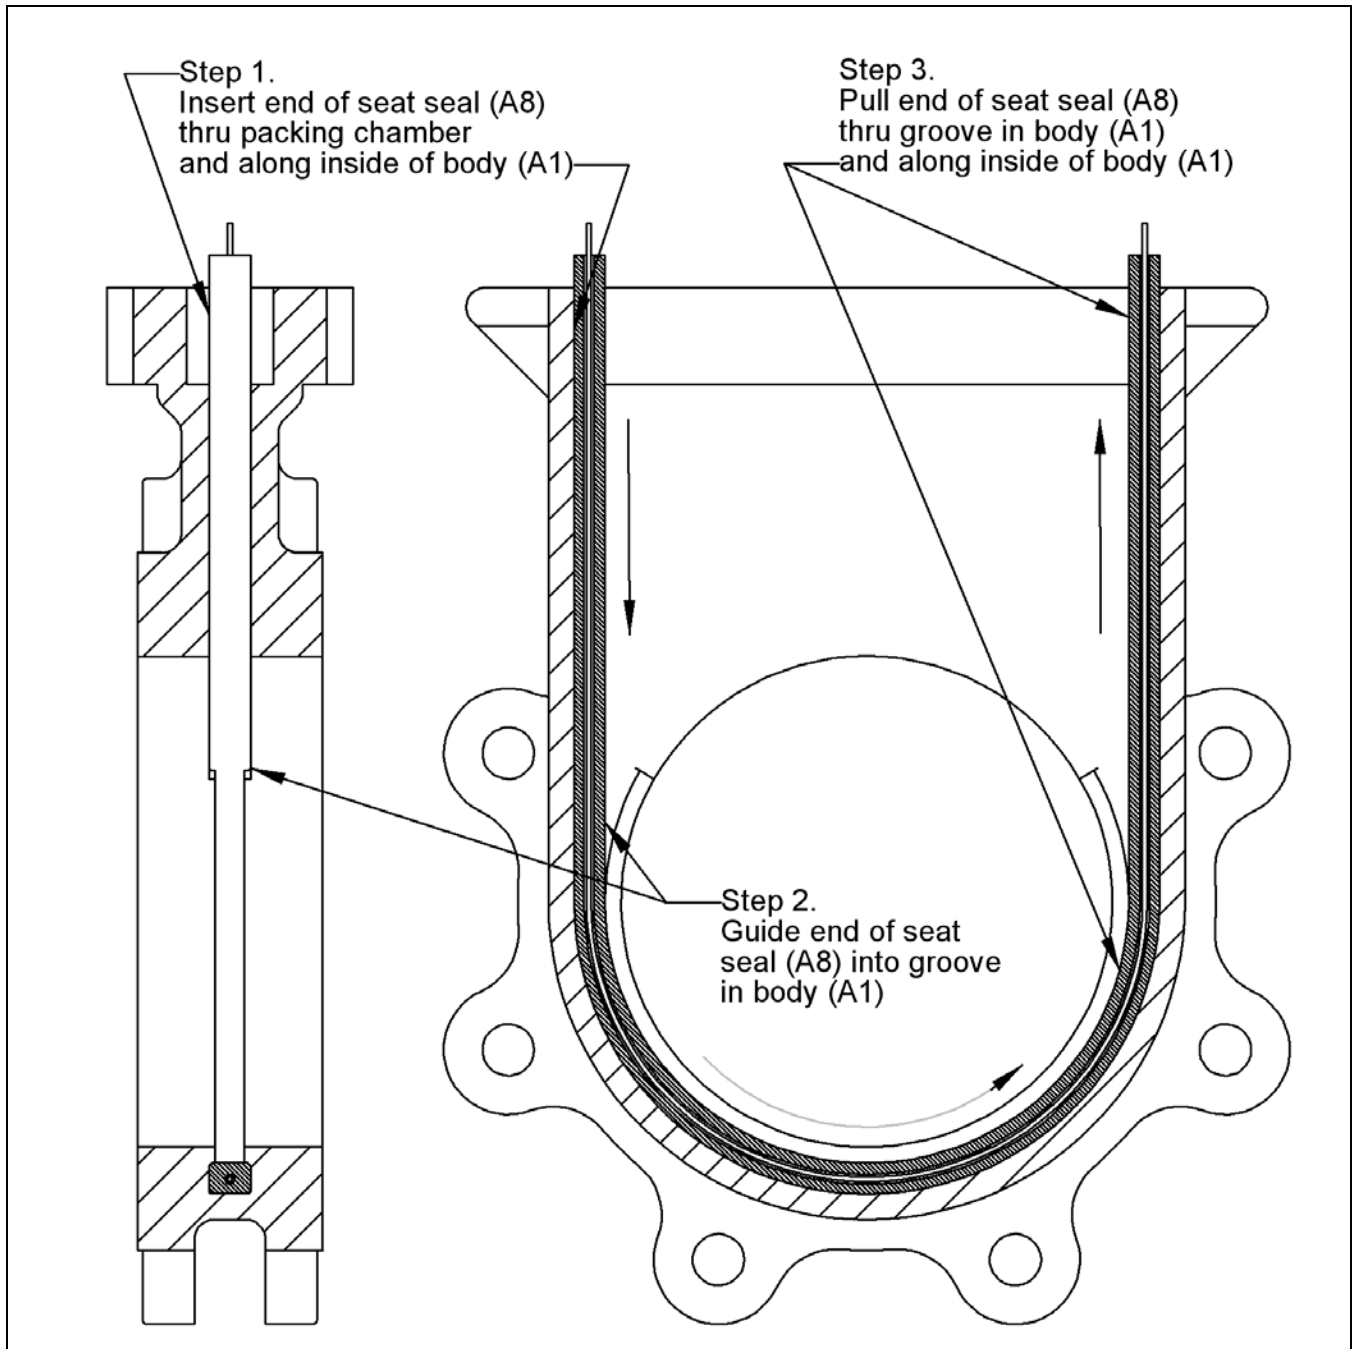

Figure 3— Seat Seal Installation
14. Insert end of seat seal (A8) thru packing chamber and along inside of body (A1). See step 1 in Figure 3.
15. Guide end of seat seal (A8) into groove in body (A1). See step 2 in Figure 3.
16. Pull end of seat seal (A8) thru groove in body (A1) and along inside of body (A1). See step 3 in Figure 3.